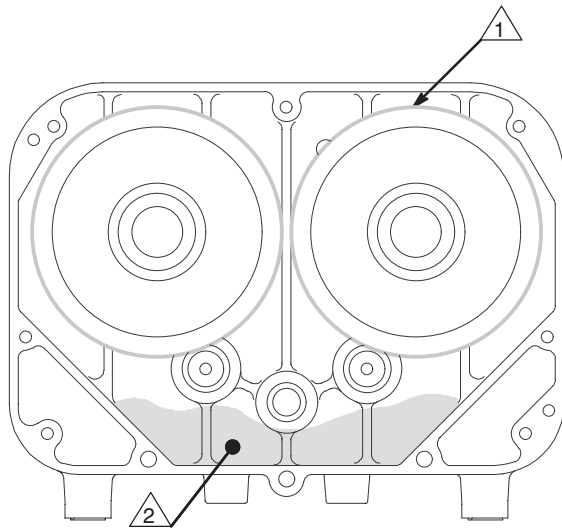
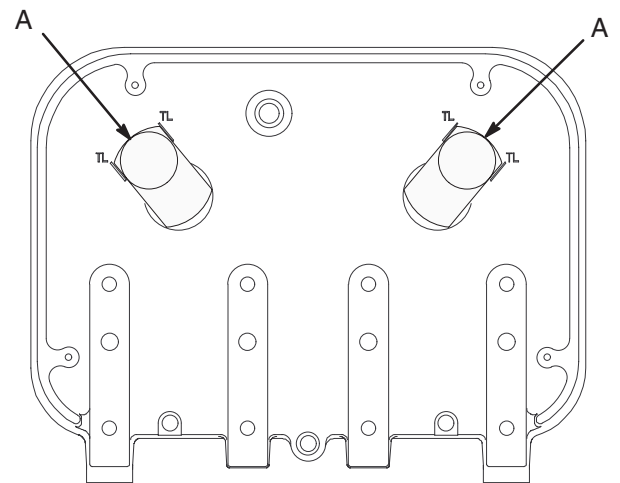

Fig. 7
Fig. 8
7. Place one bronze-colored washer (12a) and then one silver-colored washer (12b) on each shaft protruding from each big gear of the drive housing (12).
8. If replacing the complete drive housing assembly (12), brush G-n lubricant (supplied) on all gear teeth. Then recoat the gear teeth with bearing grease (supplied). Pack the remaining bearing grease into the bottom part of the drive housing. Use all of the bearing grease. See Fig. 7.
9. Install new gasket (109) (supplied).
10. Hold the crankshafts (A) between the **TL** timing lines on the drive housing while assembling the drive housing (12) to the pinion housing (11) until the gears are engaged. See Fig. 8.